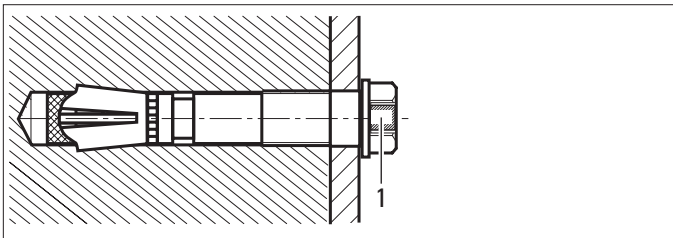

Fig. 2
⇒ Consult the HILTI representative if the green seal (1) of the anchor bolt is damaged (Fig. 2).